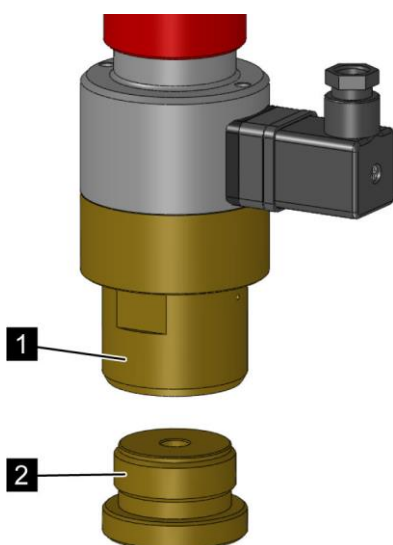

Fig. 89: Resetting the release pin
2. ➔ Screw the screw reset tool (Fig. 89/2) onto the electrical release device (Fig. 89/1) by hand until the stop.
3. ➔ Unscrew the screw reset tool (Fig. 89/2) and remove it.